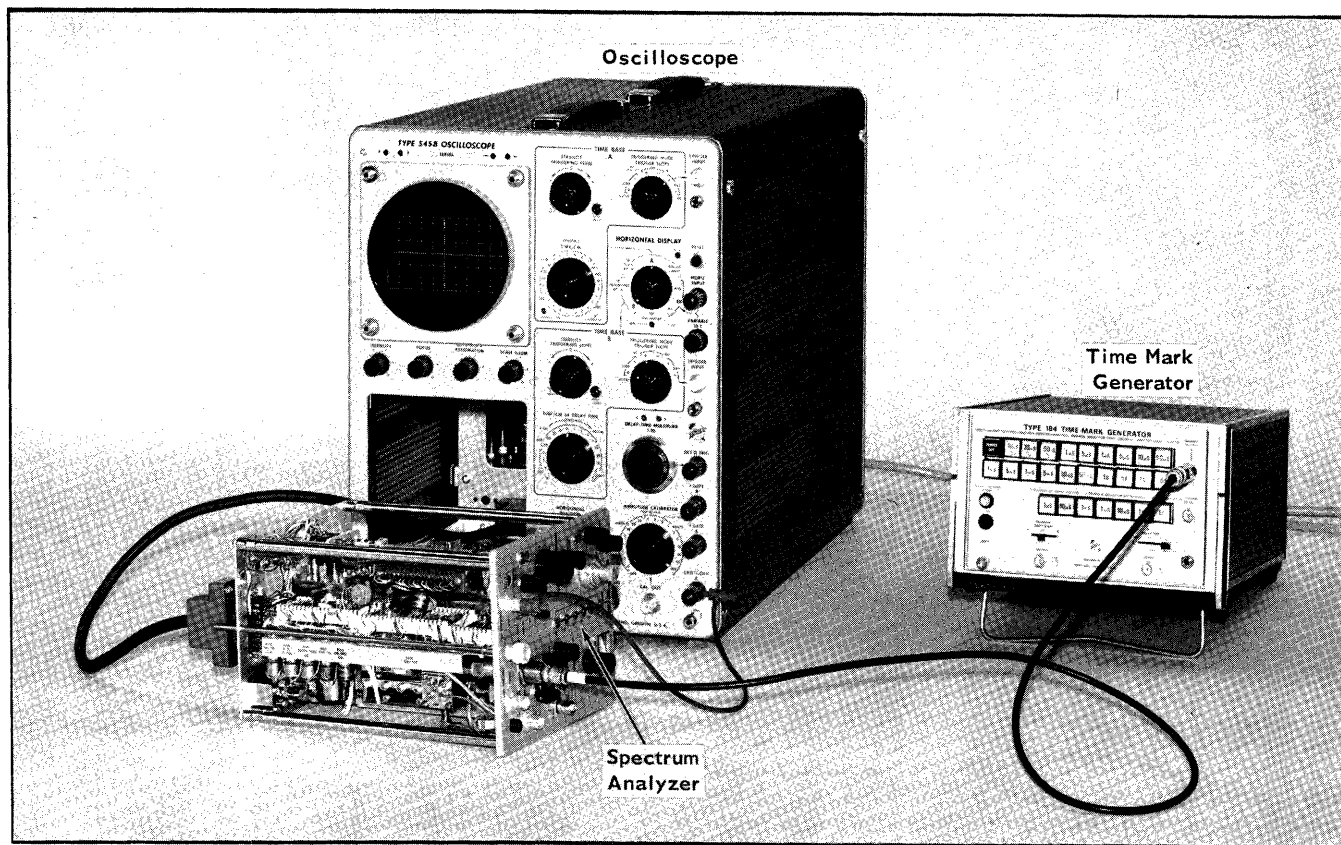

Fig. 6-12. Setup for adjusting Swept Frequency Oscillator Center Frequency (Step 5) and checking range of IF CENTER FREQ Controls (Step 6).
- a. Connect the equipment as shown in Fig. 6-12.
- b. Connect the equipment as shown in Fig. 6-12. Set the generator for 100 MHz and 10 MHz markers.